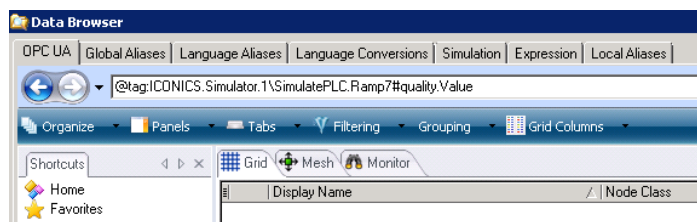

Figure 1 - Adding EPS Syntax Manually in Data Browser
4. Duplicate the PPT object and browse for the same tag again, but now you will modify the existing point syntax by clicking the Edit field at the top and adding special EPS syntax, as shown on Figure 1.